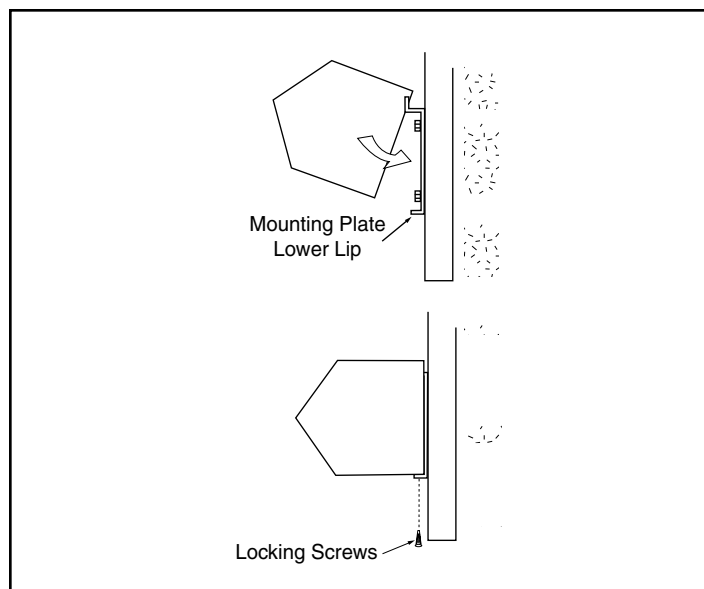

FIGURE 4 - Attaching Unit to Mounting Plate
See **FIGURE 4**.
- G. After the unit is securely seated to the mounting plate, install the locking screws along the bottom flange. See **FIGURE 4**.